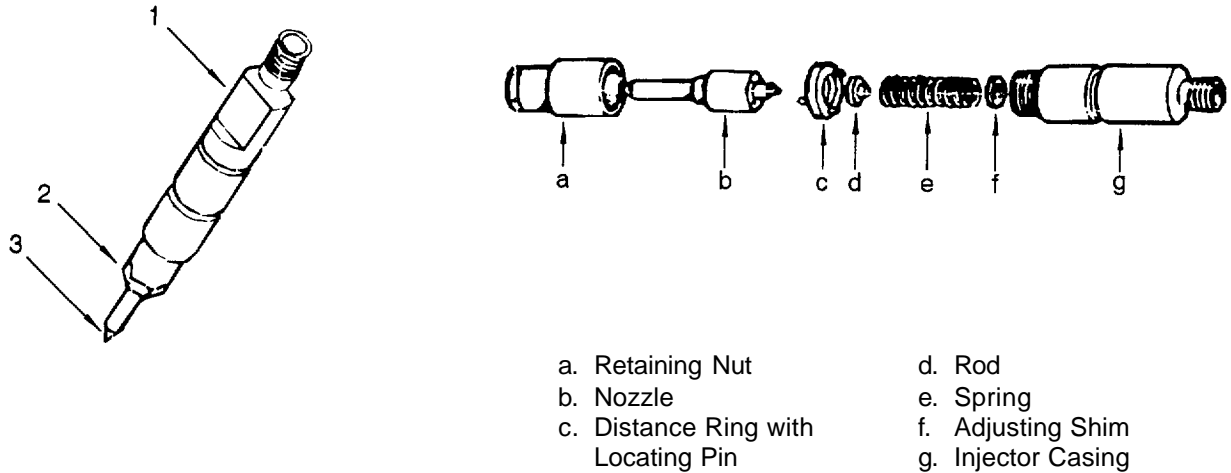

Figure 6-43. Fuel Injector Nozzle Cleaning
- i. Connect fuel supply line (11) (to fuel pump) by installing union (12), washers (13) and union bolt (14).
- j. Connect fuel return line (15) and injector return line (16) by installing union bolt (17), unions (18 and 19) and washers (20).
6.4.19 Clean Fuel Injector Nozzle. (Refer to figure 6-43.)